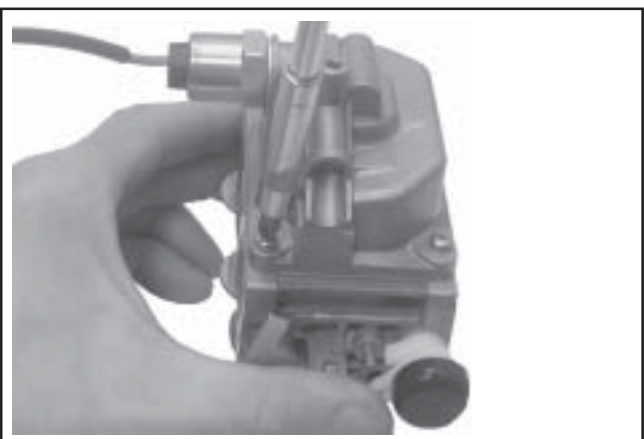

Figure 5-48. Installing Fuel Bowl.
9. When the proper float height is obtained, carefully reinstall the fuel bowl, using new O-Rings onto the carburetor. Secure with the four original screws. Torque the screws to 2.5 ± 0.3 N·m (23 ± 2.6 in. lb.). See Figure 5-48.